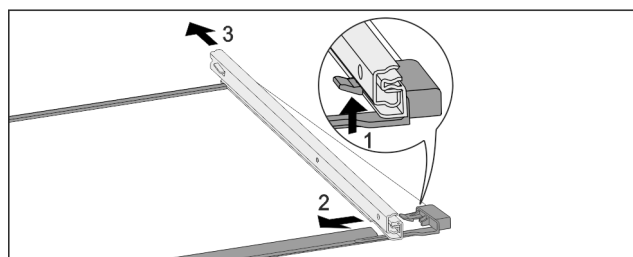

Fig. 244 Glass shelf with rails
- Push up front click-in hooks. Fig. 244 (1)
- Move the pull-out rails to the side Fig. 244 (2) and to the rear Fig. 244 (3).